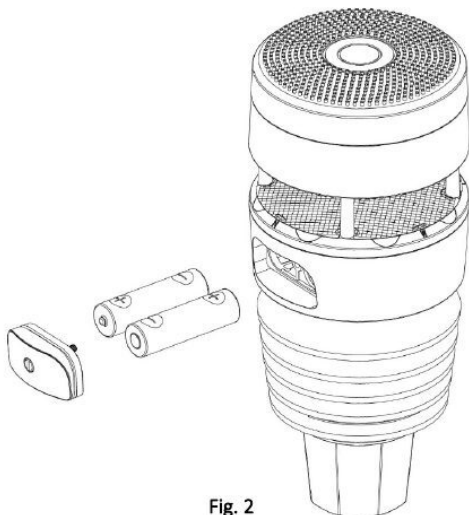

Fig. 2
3. Insert the two batteries, making sure to match the correct polarity + and – as shown in Fig. 2.
① When the external power supply adapter is connected, it becomes the main power source; the device will not use the batteries, or the energy accumulated by the solar panel.
To complete the procedure, follow steps 1- 4 in the section *Installing Batteries* (Fig. 2).